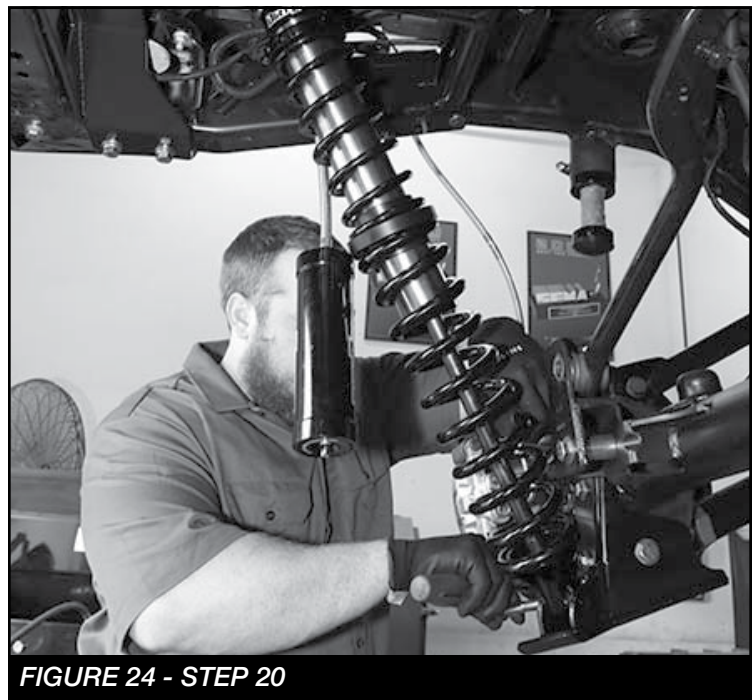

FIGURE 24 - STEP 20
20. Install the new FT820412 (Fabtech coilover) using the supplied misalignments and 1/2" x 3-1/4" bolt and hardware for the upper mount and 1/2" x 2-3/4" bolt and hardware for the lower mount. **NOTE: Install the coilover so the resi hose is oriented towards the front of the vehicle.** Torque to 127 ft-lbs. **SEE FIGURE 24**